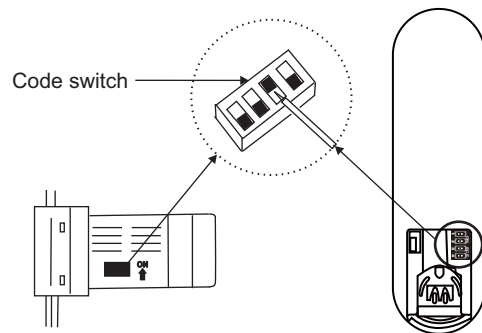

Figure 10
**NOTE:** This remote control unit is equipped with 16 code combinations to prevent possible interference from or to other remote units. The frequency switches on your receiver and transmitter have been preset at the factory. Please recheck to make sure the switches on transmitter and receiver are set to the same position, any combination of settings will operate the fan as long as the transmitter and receiver are set to the same position.(Figure 10)